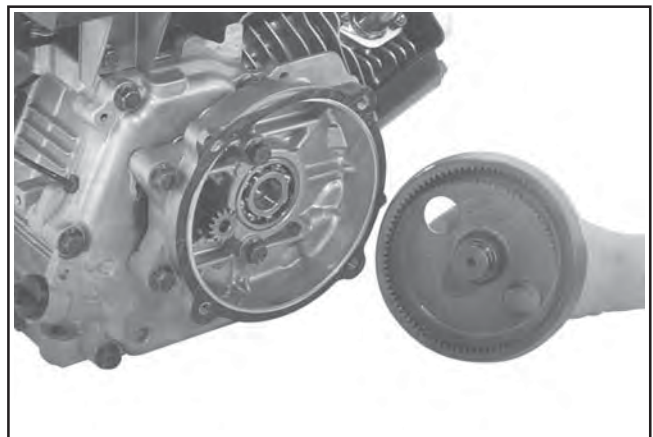

Figure 9-66. Removing Ring Gear/Shaft.
4. Remove the ring gear/output shaft assembly. See Figure 9-66.